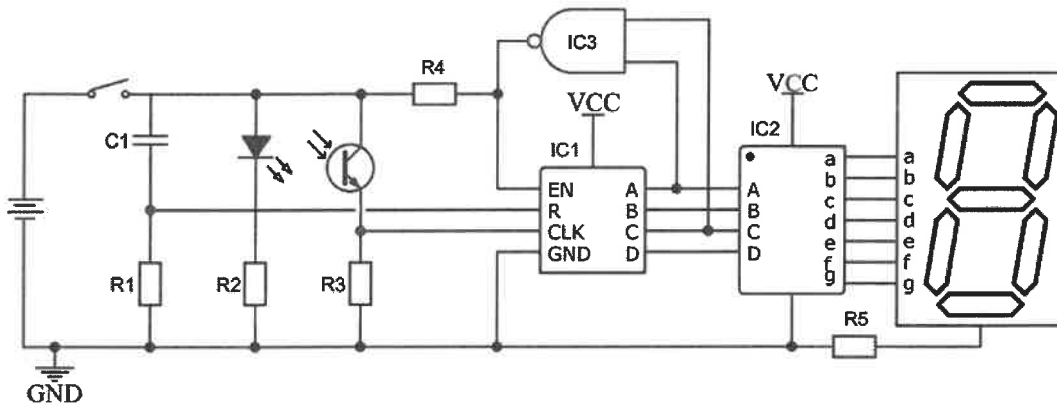

Figure 16: Circuit diagram for counting airport luggage.
Figure 16 is a counting circuit for determining the amount of airport luggage. A suitcase travelling between the **LED** and **phototransistor** interrupts the beam of light between the two components.
h) When the circuit operates, it is found that the brightness of the display varies depending on what number is showing. Why is this happening, and what adjustment to the circuit in Figure 16 would fix this?